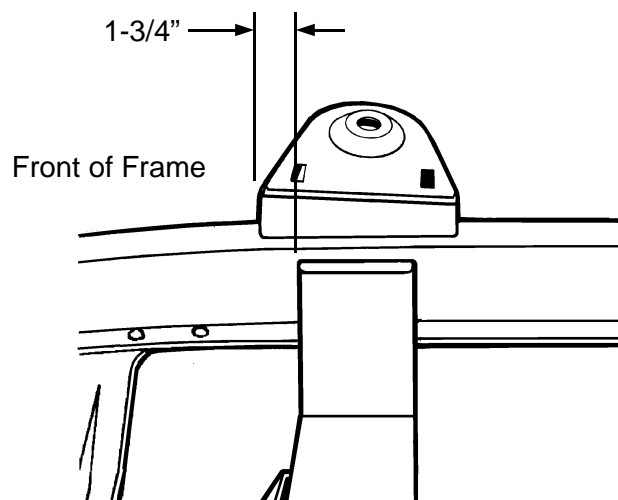

Figure 7
7. Next are the spring towers. They sit on top of the frame rails, and are located with the higher side towards the front as shown in Figure 7, (1-3/4" forward of the crossmember). Clamp in place, double check your dimensions, then weld all around, including the gusset flanges on the sides of the rails. For added strength, you can also weld the inside of the gusset flanges.